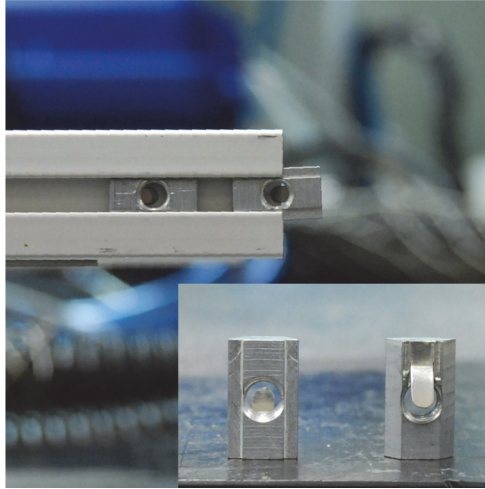

Figure 2-29 T-nuts are used to attach accessories to the frame bar sections
5. Recuperate the T-nuts from the former frame bar sections and install them on the new frame bar sections. Each each handle requires two T-nuts, each rulers requires two, and each frame bar section requires one to attach the side frame (Figure 2-29 on page 58).